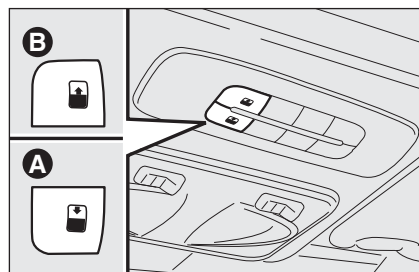
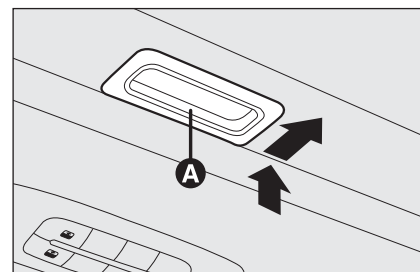

fig. 67
fig. 68
Certain versions are fitted with an armrest **A**-fig. 67 between the front seats.
The large electric sunroof comprises two panes of glass, one of which is mobile and the other fixed. These are equipped with two shutters (front and rear) that can be moved manually. The shutters can be used in the “fully closed” or “fully open” positions (they have no fixed intermediate positions). To open the shutters: grip handle **A**-fig. 68, release it and move it in the direction of the arrows to the “fully open” position. To close them, carry out the procedure in reverse. The sunroof can be operated only when the ignition key is turned to **MAR**. The controls **A-B** fig. 67 on a dedicated dashboard near the front ceiling lights open and close the sunroof.
Press and hold button **B**-fig. 67, and the front pane will set to the “spoiler” position; press button **B**-fig. 67 again for over half a second to make the sunroof slide automatically to the wide open position; press the button once more to stop the sunroof at an intermediate position.
When in wide open position, press button **A**-fig. 67 for over half a second to set the front pane to the “spoiler” position; press the button again to stop the sunroof at an intermediate position; press button **A**-fig. 67 once more and hold it down to close the sunroof completely.
- ☐ press button **A**-fig. 67 at close position;